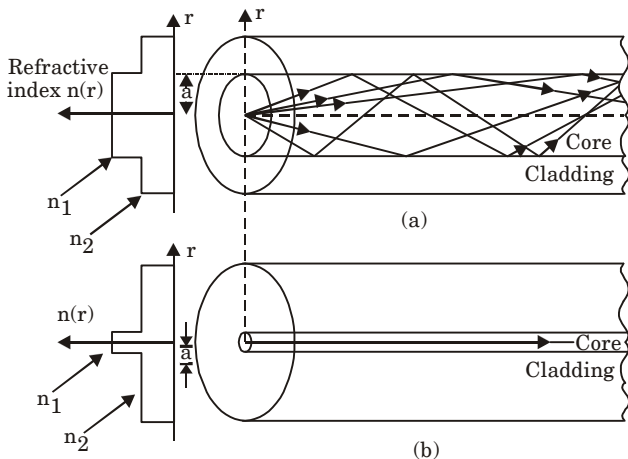

Fig. 1.20.1. The refractive index profile and transmission in step index fibers : (a) multimode step index fiber ; (b) single-mode step index fiber.
5. The Fig. 1.20.1 shows a multimode step index fiber and single mode step index fiber. In multimode step index fiber core diameter is around $50 \mu\text{m}$ or greater, which is large enough to allow the propagation of many modes within the fiber whereas single mode step index fiber has a very fine thin core, so that only one mode can be propagated.